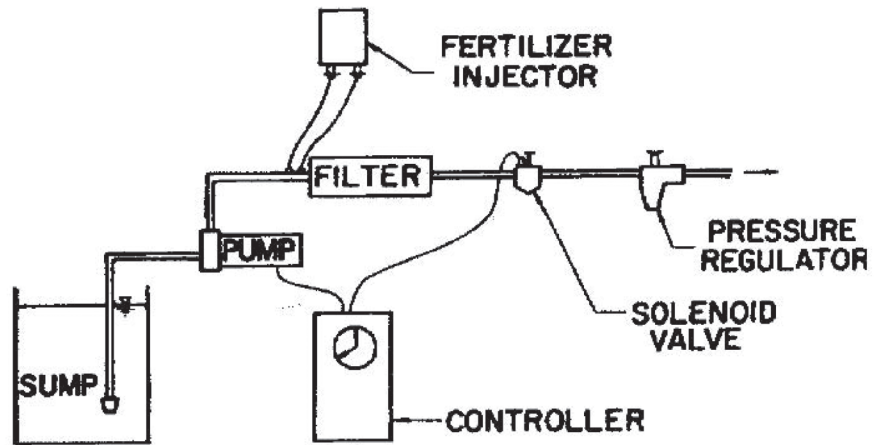

Figure 1: Typical micro sprinkler irrigation system "head."
Micro-irrigation systems consist of a system “head” and a distribution network. A pump, filter, flow meter (optional), pressure gauge, fertilizer injector (optional), pressure regulator, and controller (optional for manual systems) generally make up a system head (Figure 1). The flow meter and acid injector are optional equipment but highly desirable because they help monitor system performance (flow meter) and add flexibility to the system (injector). The distribution network consists of pipes usually made of polyethylene (PE), pipe fittings, sprinklers, and valves. Valves can be actuated electrically by a controller connected to a solenoid valve in the case of an automated system or manually.